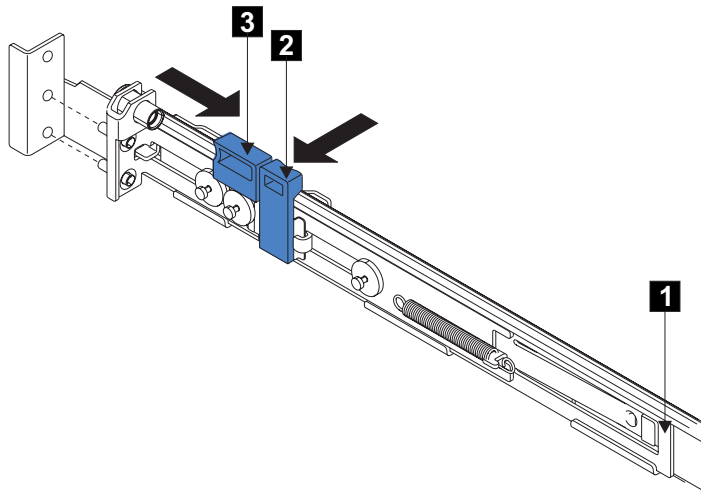

Figure 76. Opening the back latch-lock carrier assembly
5. Push the back rail bracket **1** (Figure 76 on page 334) toward the front of the rail until it stops. The rail is now at its shortest adjustment.